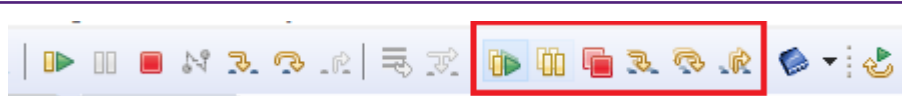

Figure 48. MCUXpresso IDE multicore synchronous controls
- use the **Suspend All Debug sessions** and **Resume All Debug sessions** buttons (highlighted in Figure 48).